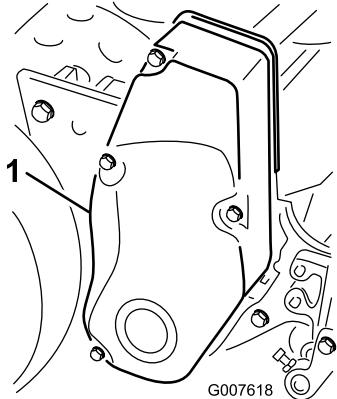

Figure 38
1. Remove the belt cover mounting fasteners and belt cover to expose the belt (Figure 38).